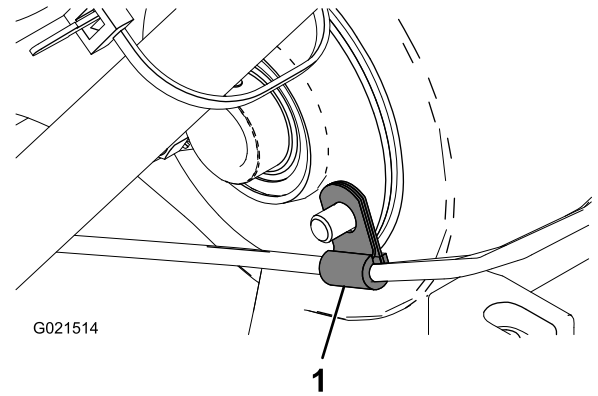

Figure 5
4. Using the existing throttle cable clip, attach the new throttle cable to the rear of the differential housing (Figure 5).